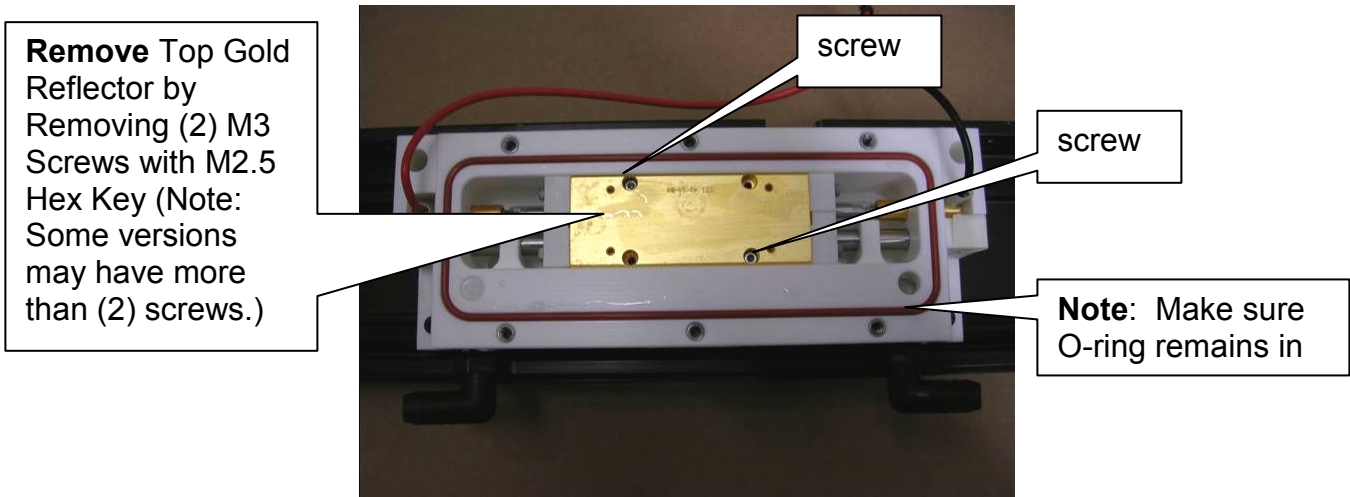

Figure 4a
7. There are two styles of reflectors: Gold shown in **Figure 4a** and white ceramic shown in **Figure 4b**. The gold reflectors are secured by screws and the ceramic reflectors are held in position by end stops. (Note: Make sure the Stainless Steel Shim is installed as shown in the ceramic reflector.)